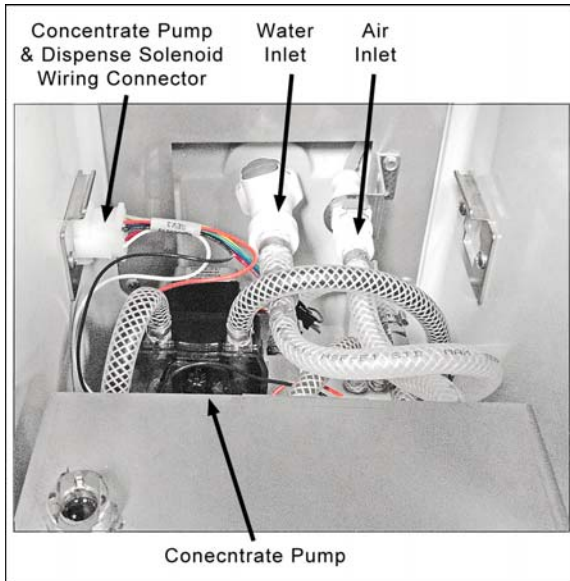

Figure 5-1 - Air Inlet Line
- 2) Inside the cabinet, disconnect the dispense-assembly air line from the back wall air inlet. Connect a 100 psi (689 kPa) air pressure gauge with a quick-connect fitting to the Air Inlet line (Figure 5-1).